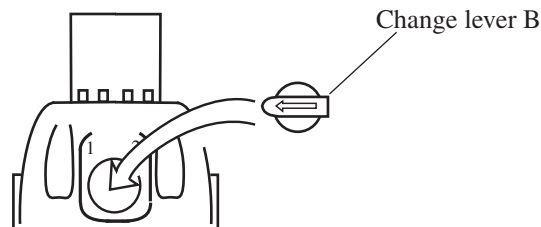

Fig.11
- (2) Insert change lever B into gear housing turning the arrow to "1" as illustrated in Fig.11.